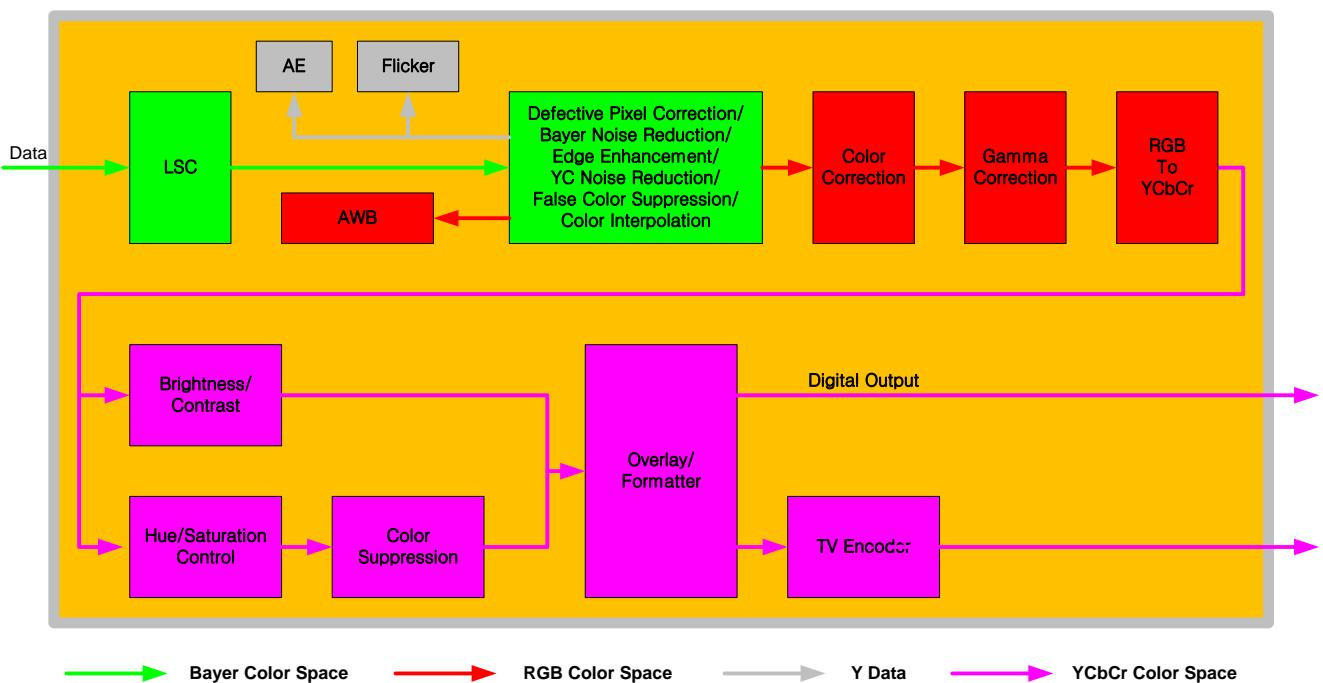

Figure 10-1 ISP Block Diagram
ISP (Image Signal Processing) carries out a function whereby the 10 bit data input from the sensor is converted into RGB and image processed to be output again. As shown in Figure 10-1 Figure 10-1 ISP Block Diagram, the input video data is processed together with Y and RGB data for Auto Exposer(AE) and Auto White Balance (AWB), through LSC and WDR blocks. Bayer format data goes through interpolation part to be converted to R[9:0], G[9:0], B[9:0].